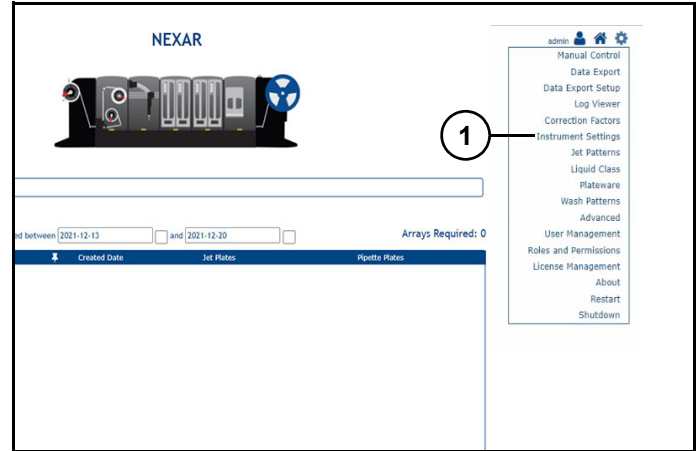

Figure 11
1. Click "Instrument Settings" (1) (Figure 11).